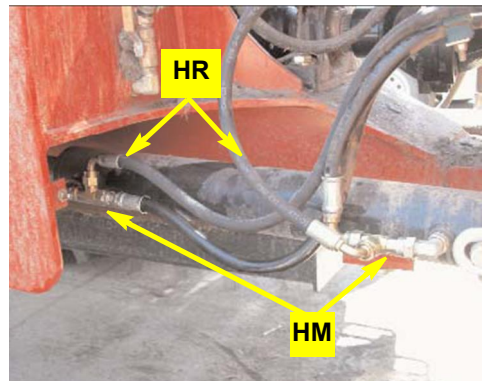

Figure 8c: Installed steering hoses at steering cylinder run-tees
- c. Connect the elbow fitting ends of the steering output hoses **HR** to the branches on the steering cylinder run-tees **HM** (Figure 8c).